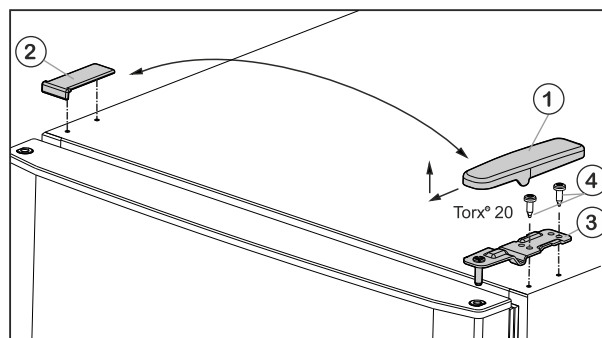

Fig. 5
- ▶ Pull off the cover Fig. 5 (1) forwards and upwards.
- ▶ Lift off the cover Fig. 5 (2).
- ▶ Unscrew the upper turn hinge Fig. 5 (3) (2 x Torx® 20) Fig. 5 (4) and lift it off.
- Insert the upper turn hinge *Fig. 5 (3)* in the door on the new hinge side.
- Screw in the upper bearing block **tightly (with 4 Nm)** (2 x Torx® 20) *Fig. 5 (4)*. Use a cordless screwdriver if necessary.
- Fit the cover *Fig. 5 (1)* on the opposite side by sliding it rearwards and latching it into place.
- Press the cover *Fig. 5 (2)* on the opposite side down into place until it latches.